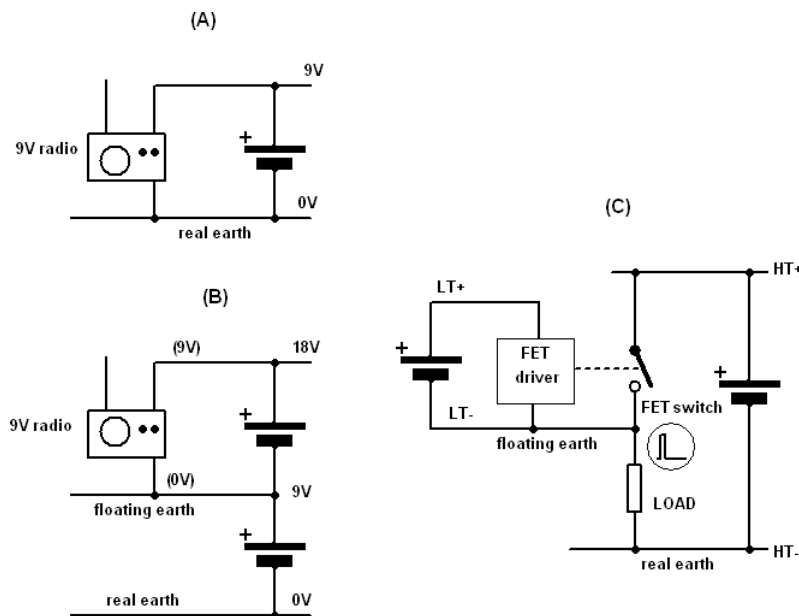

Figure 5. The floating earth concept
The floating earth concept can be confusing at first, and as it is a core part of the PUWMA circuit it's worth spending a little time on an explanation using a simple illustration. Consider Figure 5 (A) below. This shows a 9V transistor radio powered from a 9V battery, where the 0V side is connected to earth. Now look at 5(B). Here we have the same radio powered by the same battery, but this time we have added another battery in series. The radio's 0V line is now at 9V with respect to real earth, but as far as the radio is concerned, nothing has changed. The radio's 0V is now a floating earth. Figure 5(C) takes the same concept and applies it to a representation of what is happening in PUWMA. Instead of the radio we now have a FET driver, with its own LT supply. The FET driver rapidly switches the FET on and off, rather like a simple toggle switch. When the switch is open, LT- is at earth potential (HT-) because there is no voltage drop across the load as no current flows. When the switch is closed, HT+ is applied to the load, raising the level of the floating earth LT- and also LT+. The FET driver knows nothing of this because the LT voltage i.e. the potential difference between LT- and LT+ doesn't change. (The output pulse width is determined by the time during which the switch is closed, and the frequency by the number of open/close operations per second).